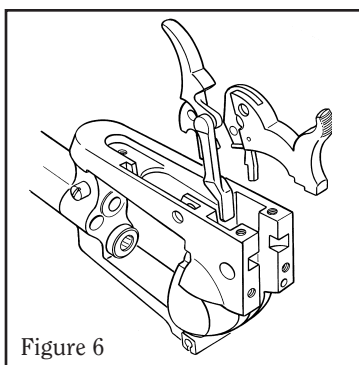

Figure 6
8. Remove hammer pivot. Then remove the hammer/pawl assembly and the trigger/transfer bar assembly. (Note that the hammer is attached to the pawl and the transfer bar is attached to the trigger. See Figure 6).